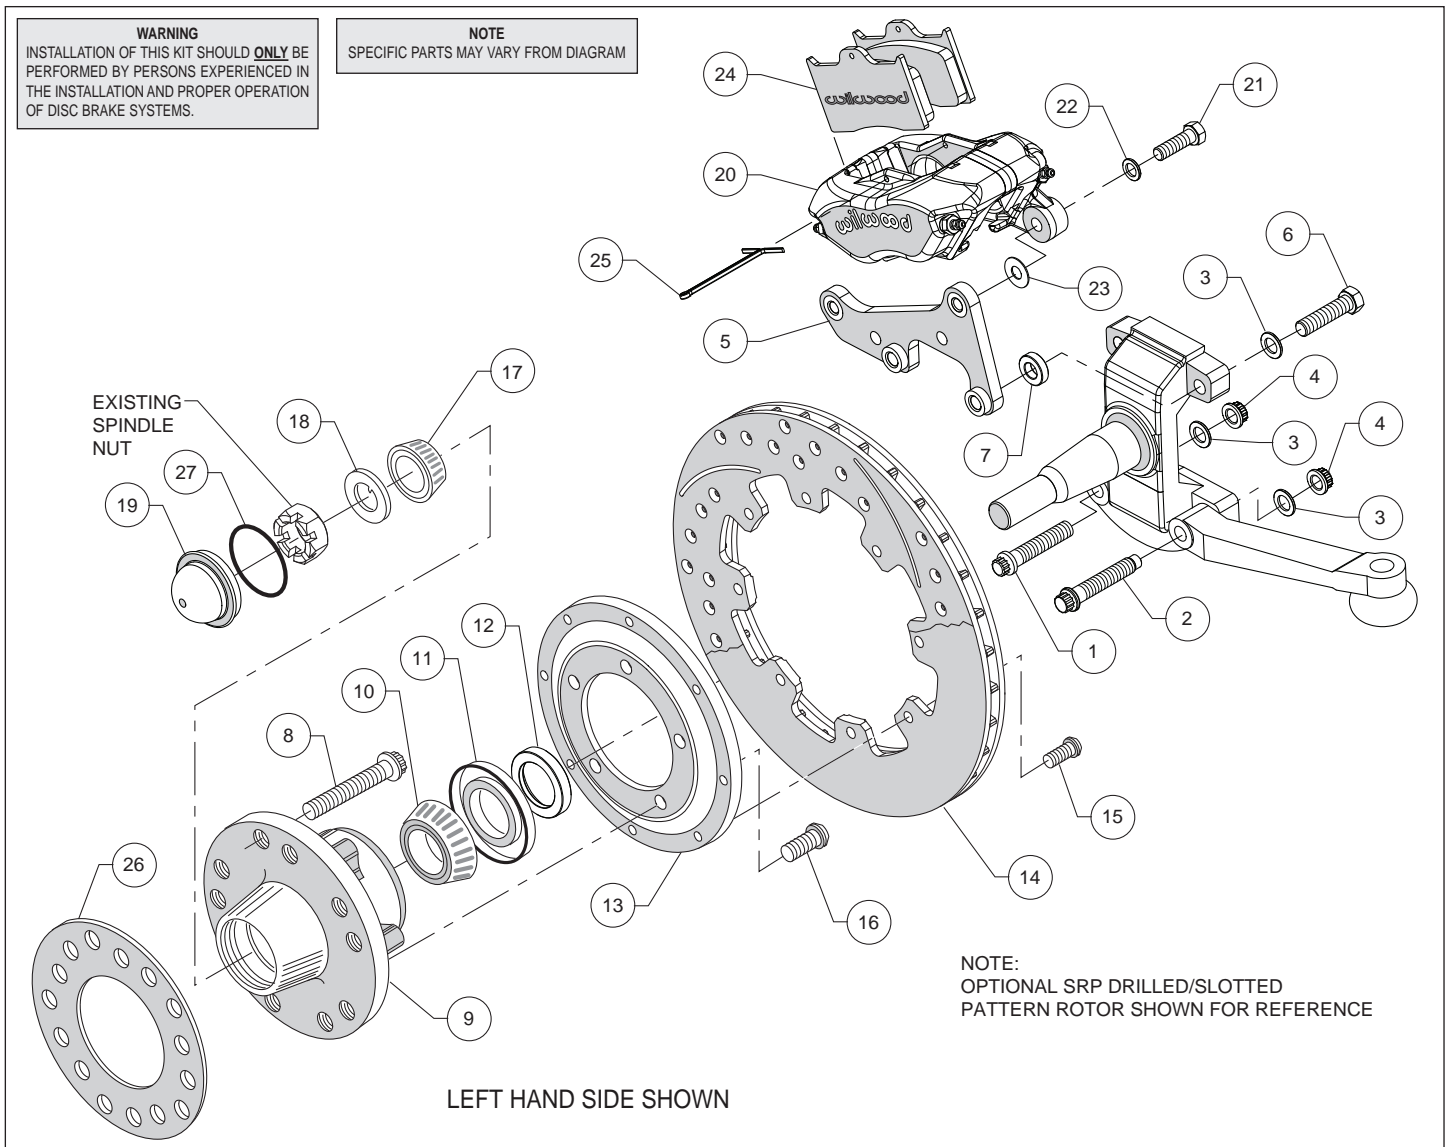
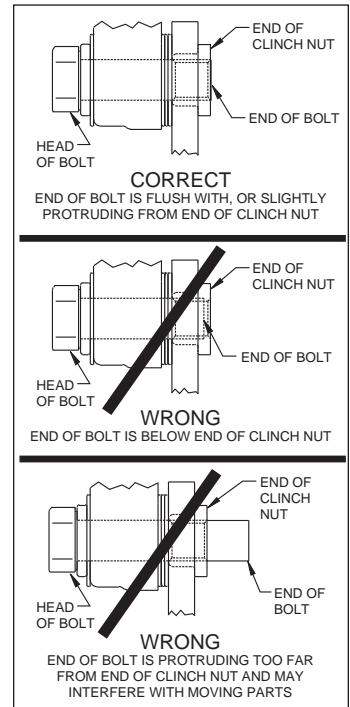

Figure 1. Typical Installation Configuration
Figure 3. Clinch Nut
Assembly Instructions (numbers in parenthesis refer to the parts list and Figure 1 on the preceding pages): **CAUTION:** *All mounting bolts must fully engage clinch nuts.* Be sure to check that all bolts are either flush or protruding through flanged side of clinch nut after shimming, Figure 3.
- One at a time, remove the two lower OEM bolts that secure the steering arm from the back side of the spindle. Replace with new bolt (1), in the forward most hole, and bolt (2) in the rear hole, Photo 1. **NOTE:** *The longer bolt with the end of the threads turned down is the steering stop.* The new bolts are installed in the opposite direction as the original bolts, from the outside, Photo 2. Secure bolts using washer (3) and nut (4) as shown in Figure 1. Torque nuts to 47 ft-lb.
- Orient the caliper mount bracket (5) as shown in Figure 1 and Photo 2, and install using bolts (6) and washers (3). Place spacers (7) between spindle and bracket. Ensure that the flanged heads of the clinch nuts in the bracket are facing outboard, Photo 2. Temporarily tighten the mounting bolts. **NOTE:** *The bracket must fit squarely against the mount bosses on the upright.* Inspect for interference from casting irregularities, machining ridges, burrs, etc. Remove bolts one at a time, apply red *Loctite*® 271 to the threads and torque to 60 ft-lb.
- Install wheel studs (8) into the hub (9), Photo 3. Torque to 77 ft-lb.
- Pack the large inner bearing cone (10) with high temperature disc brake bearing grease (available from your local auto parts store) and install into the backside of the hub (9), Photo 4.
- Install the grease seal (11) by pressing into the backside of the hub (9), flush with the end of the hub, Photo 4.
- Orient the rotor (14) and the rotor adapter (13) as shown in Figure 1 and Photo 5. Attach the rotor to the adapter using bolts (15). Using an alternating sequence, apply red *Loctite*® 271 to the threads, and torque to 25 ft-lb.
- Mount the adapter/rotor assembly (13/14) to the hub (9) using bolts (16), as shown in Figure 1 and Photo 6. Using an alternating sequence, apply red *Loctite*® 271 to the threads, and torque to 55 ft-lb.
- Slide the bearing spacer (12) onto the spindle. Ensure the chamfered I.D. faces inward, Photo 7.
- Pack the small outer bearing cone (17) with high temperature disc brake bearing grease and install into hub (9). Slide the hub/rotor assembly onto the spindle. Secure using spindle washer (18) and nut, Photo 8. **NOTE:** *The O.D. of the existing OEM spindle washer may be larger than the I.D. of the dust cap not allowing it to seat against the hub face. Therefore, use the spindle washer (18) supplied with the kit instead of the OEM washer. Adjust bearings by tightening the wheel bearing nut to 60 in-lbs. while turning the hub/rotor assembly. Back off the adjusting nut one slot and install a new cotter pin (not supplied). The resulting adjustment should be zero (no pre-load to 0.003 inch end play). NOTE: The left hand spindle has left hand threads.*
- Install the o-ring (27) onto the dust cap (19). Press the dust cap into the hub (9), Photo 9.
- NOTE:** *Please reference the caution statement at the beginning of the assembly instructions. Mount the caliper (20) onto the caliper mounting bracket (5) using bolts (21) and washers (22), as shown in Figure 1. Initially place one .035" thick shim (23) on each bolt between the caliper and the bracket, Photo 10. Temporarily tighten the mounting bolts and view the rotor (14) through the top opening of the caliper. The rotor should be centered in the caliper, Photo 11. If not, adjust by adding or subtracting shims between the bracket and the caliper. Always use the same amount of shims on each of the two mounting bolts. NOTE: The end of each bolt must be flush with or slightly protruding from the head of the clinch nut, as shown in Figure 3. If necessary place spare shims between washer (22) and caliper mounting ear to achieve the proper clinch nut engagement. Once the caliper alignment and clinch nut engagement are correct, remove the bolts one at a time, apply red *Loctite*® 271 to bolt threads, and torque to 40 ft-lb.*
- Install the disc brake pads (24) into the caliper, with the friction material facing the rotor (14), and secure in place using cotter pin (25), Photo 12.
- Install wheel spacer (26) as shown in Figure 1 and Photo 13. Temporarily install wheel and torque lug nuts to manufacturer's specification. Ensure that the wheel rotates freely without any interference. **NOTE:** *Wheel spacer (26) MUST be used if any wheel contact surfaces overhang the outside diameter of the hub face. See warning on page 3.*